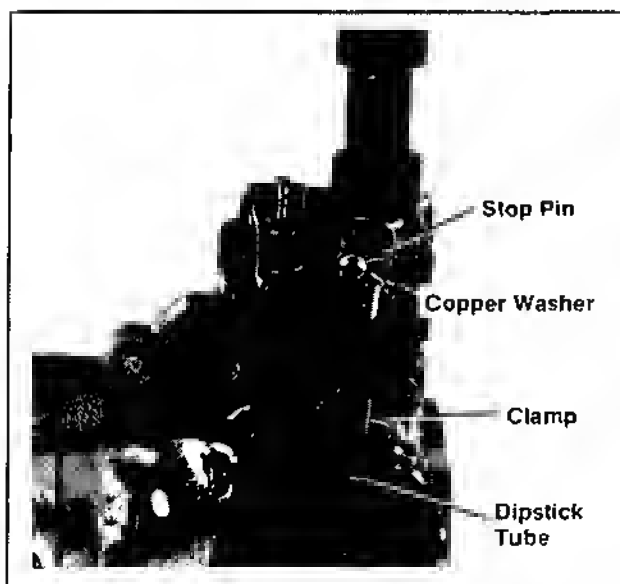

Figure 9-36. Removing Governor Stop Pin.
1. Remove the governor stop pin and copper washer. Refer to Figure 9-36.